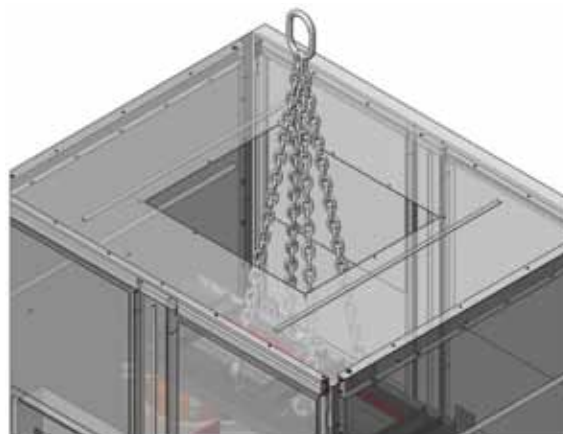

FIGURE 8
(8) Lift the power transformer by core & coil only through cutout in enclosure roof (see figure 8).